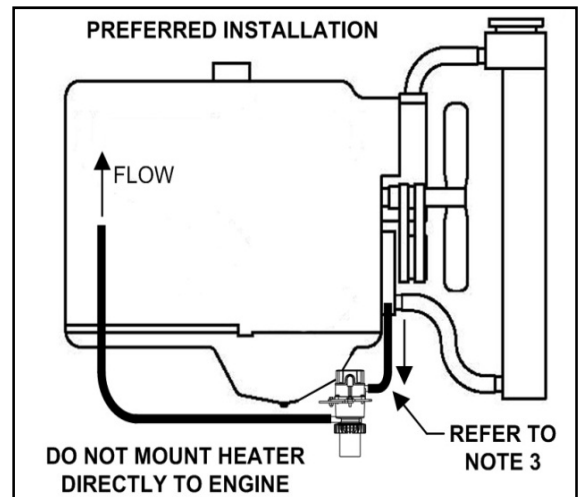

Figure 1
2. Mount heater as shown in figure 1 with the pump at the bottom and the power cord connection at the top. Attach the heater as low as possible to the equipment frame or other suitable area. Heater should be below the lowest level of the engine water jacket. The heater inlet must be below the point where coolant is removed from the engine.
The heater will operate correctly only if mounted in the vertical orientation as shown in Figure 1.
The inlet hose must route continuously downward from the engine to the heater with no dips or humps that can trap air. The coolant draw must be as close to directly above the heater as possible. See Figures 1. This will enhance air evacuation from the heater at start up and will insure the heater has a supply of coolant at all times.